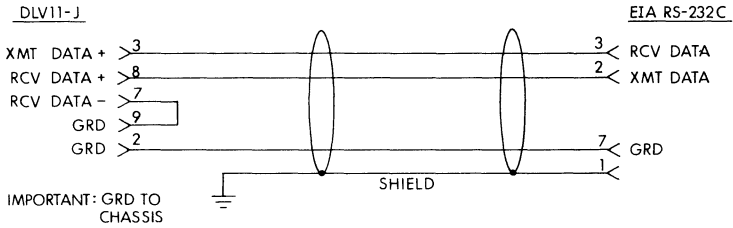

Figure 20-9 BC20N-05 Null Modem Cable
1. To directly connect to a local EIA RS-232C terminal, it is necessary to use a null modem. To design the null modem into the cable, one must switch RECEIVED DATA (pin 2) with TRANSMITTED DATA (pin 3) on the RS-232C male connector as shown. (See Figure 20-9)